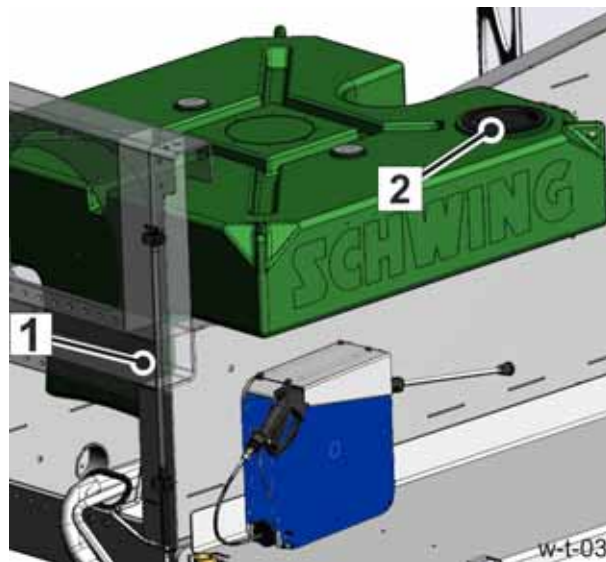

Fig. 44 Example
- Check the filling level of the water case on the level indicator (1) (Fig. 44 Example) at the rear of the machine.
- Fill clean water through the filling neck (2) (Fig. 44 Example) on the top of the reservoir.
- Remove the filling cap (2) (Fig. 44 Example) on the top of the reservoir.
- Fill the water case (Fig. 44 Example) using a water hose via the above filler cap, if safe filling via the water connection (12) is not possible.